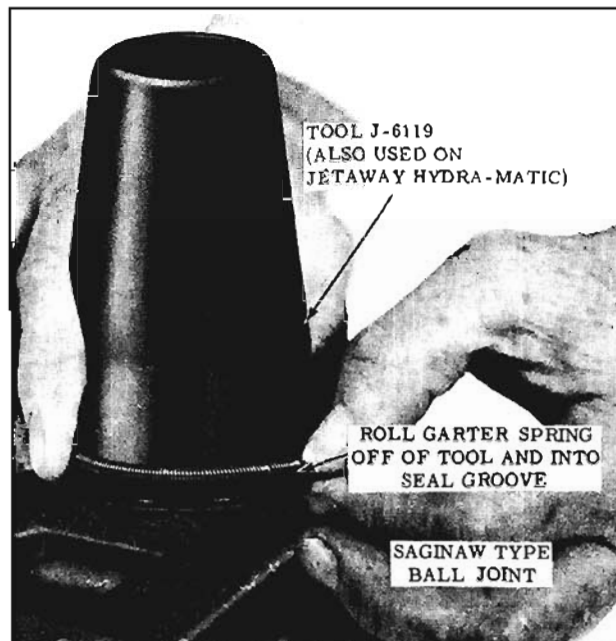

Fig. 9-26 Installing Saginaw Type Seal
- For Saginaw type, stretch garter spring around Tool J-6119. Do not stretch garter spring any more than necessary when installing on tool. Place seal on ball joint and install garter spring as shown in Fig. 9-26.